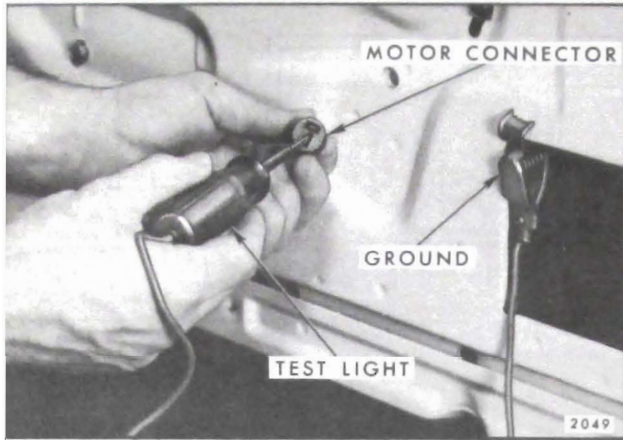

Fig. 16-37—Checking Circuit Between Switch and Motor
2. Insert one end of a #12 gauge jumper wire in the switch feed terminal and the other end in one of the motor lead terminals of the switch block (see Fig. 16-37).